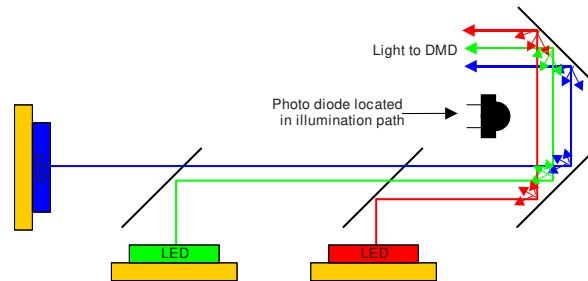

Figure 42. Photodiode Placement
- Ideally, a position in the illumination path (Figure 42) should be located that produces strong, but also balanced amplitude signal responses from each of the three LEDs at the system's target white point. Imbalance between the three channels due to non-ideal placement of the detector will limit dynamic range of the dimming system. The TIA supports an RGB trim function to help re-balance an imbalanced system. This feature is useful for completing the process of optimizing the balance of the amplitude signal responses from each LED. But it is still advisable to take care in the design of the illumination path such that the natural balance of the colors is as ideal as practical.